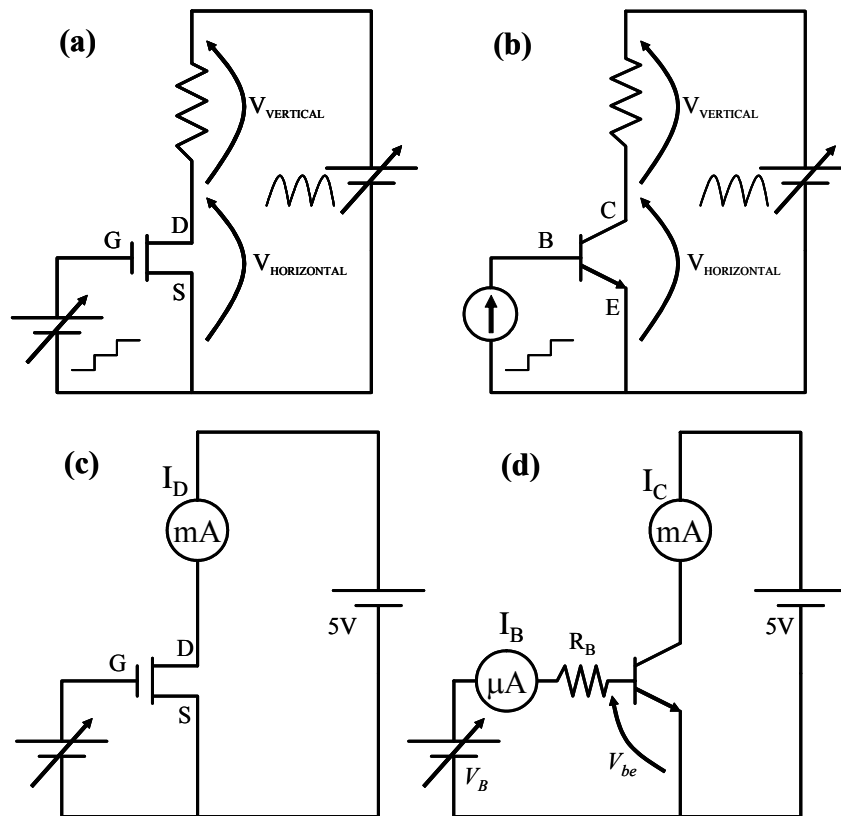

Fig. B2. Circuits used to obtain output (upper circuits) and transfer (lower) characteristics of FETs (left) and BJTs (right).
i) While the curve tracer is off, connect the BJT's E/B/C terminals to the curve tracer. The equivalent circuit of the connection is as shown in Fig. B2(b). Check the curve tracer settings: refer to the table given in curve tracer manual. Then, connect HORIZONTAL to CH1 (or X) of the CRO and VERTICAL to CH2 (or Y). Set the CRO to X-Y mode. Switch on the curve tracer. Adjust some setting on the curve tracer to obtain a nice curve on the CRO screen. Plot the *output* characteristic. Label the axes appropriately.
i) While the curve tracer is off, connect the JFET's G/S/D terminals to the curve tracer. The equivalent circuit of the connection is as shown in Fig. B2(a). Check the settings: N-CHANNEL, V_{DS} limit = 10V, FET. Then, connect HORIZONTAL to CH1 (or X) of the CRO and VERTICAL to CH2 (or Y). Set the CRO to X-Y mode*. Switch on the curve tracer. Plot the *output* characteristic. Label the axes appropriately.